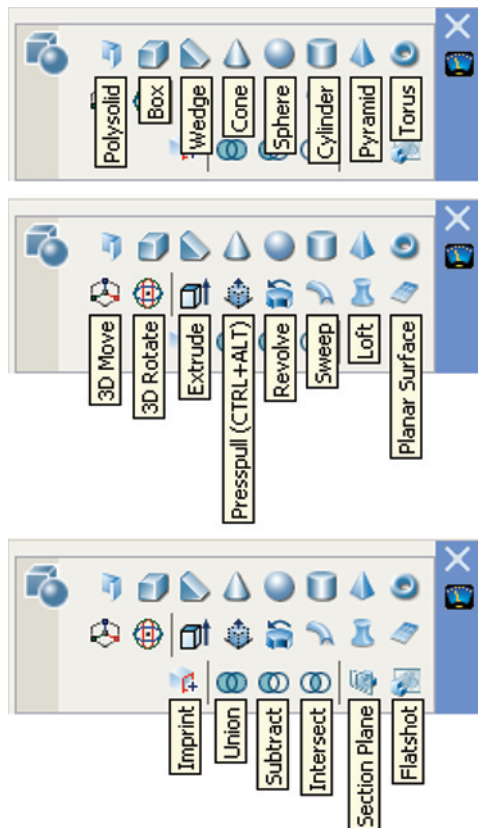

Fig. 13.4 The tool icons and tooltips in the **3D Make** control panel
Fig. 13.4 shows the tools and tooltips in the **3D Make** control panel.
5. Call the **Polysolid** tool with a *click* on its tool icon in the **3D Make** control panel (Fig. 13.4). The command line shows:
The **Extrude** tool can be called either with a *click* on its tool icon in the **3D Make** control panel (Fig. 13.4, page 197), or from the **Modeling** toolbar, or from the **Draw** drop-down menu, or by *entering* **extrude** or its abbreviation **ext** at the command line.